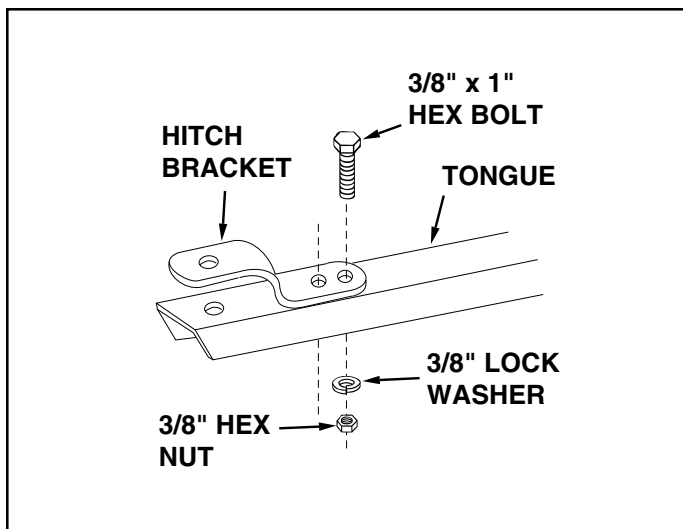

FIGURE 10
15. Assemble the hitch bracket to the drawbar tongue, using two 3/8" x 1" hex bolts, 3/8" lock washers and 3/8" hex nuts. **Tighten.** See figure 10.